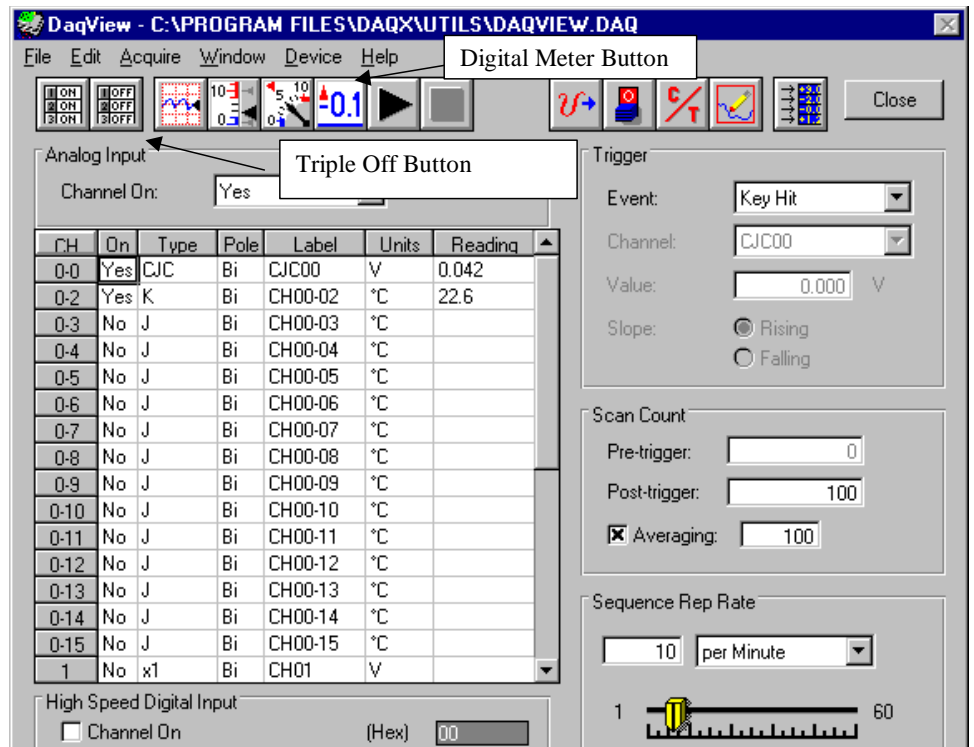

Figure 3: Configuration Menu
- 4.4. The screen shown in Figure 3 will appear and is the configure menu. In this menu you will tell the computer what card and device you are using to collect data, how many samples should be taken, the frequency of data sampling and the amount of data averaging. Check to see that the device is not a simulation, by choosing Device, Select Device, and DaqBook.
- 4.6. Referring to Figure 3, turn all the channels off by pressing the "triple off button." Then turn the cold junction compensation channel (CJC) on and turn the thermocouple channel 02 on. To turn these channels on you can double click on top of the No or select an option from the drop down menu.
- 5.5. Open a digital meter by selecting the digital meter button (See Figure 3). Select 1 channel of data and double click on the data channel to select channel 02.
- 5.7. During the data acquisition process the data has been stored in a temporary file in the C:\Windows\Temp directory. This file is a binary file called _\$d1.bin. After the data collection has been stopped, either through the program or pressing the cancel button, the binary file is converted to a text file, _\$d1.txt, which is read by Excel into the spreadsheet. After several samples, press the cancel button. Notice that in the bottom left corner the program tells you what is happening!. Now check that you have collected 2 columns of data: CJC and 02. Notice that there are three columns of data for time, CJC channel in Volts and the temperature channel in °C. If you would like to give new names for your channels then you can type these names in the DaqView configuration panel shown in Figure 3.